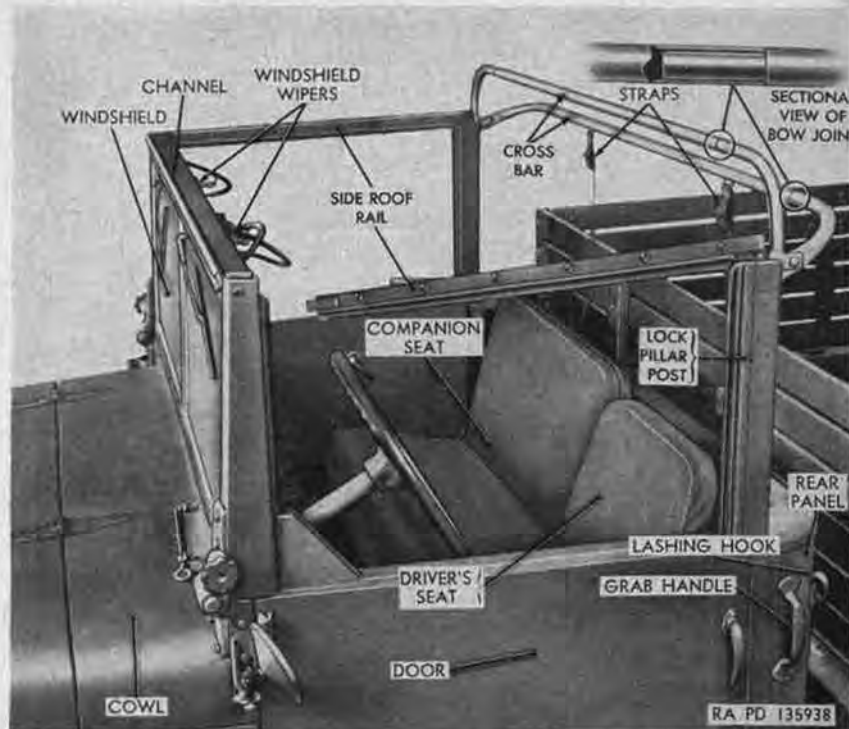

Figure 334. Top left view of cab with top paulin removed.
a. Cab. The cab (fig. 334) consists of the cowl, instrument panel, side panels, doors, rear panels, seats, and floor. Weather protection is provided by the windshield, door glass windows, and top paulin. Two windshield wipers are mounted at the top of the windshield frame, and a rear view mirror is mounted on the windshield center post.
(fig. 334)